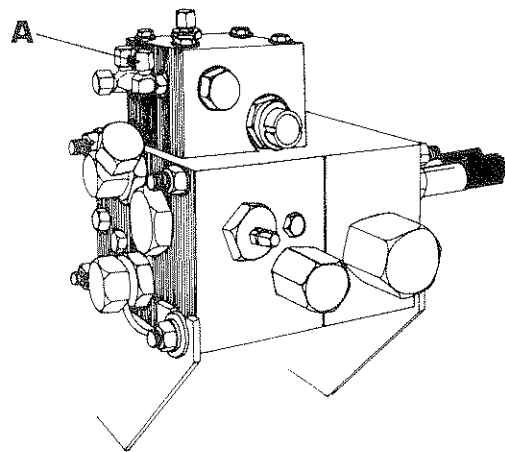

Fig. 51
2. Remove the 1/4 inch JIC cap on gauge port "A", see Fig. 51.